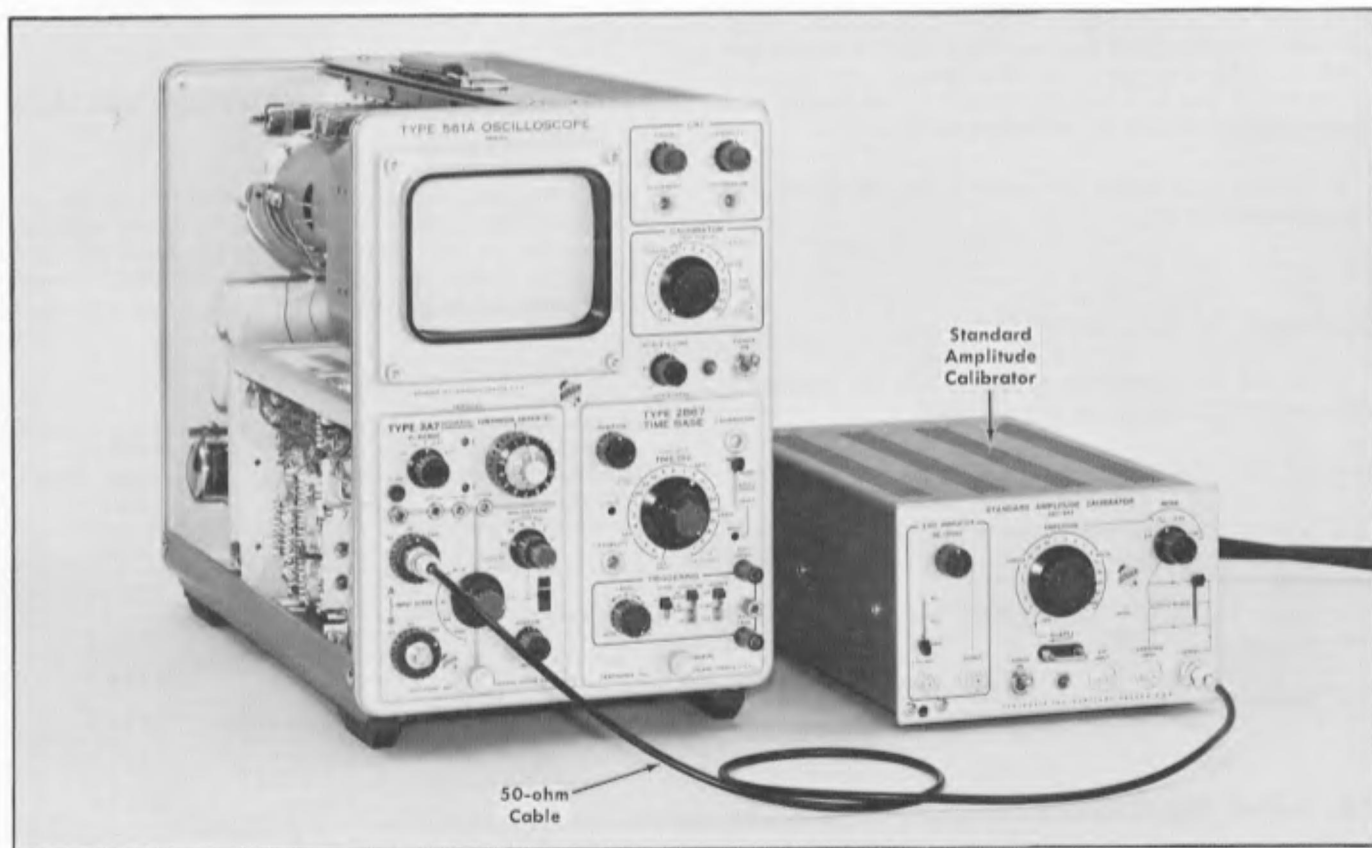

Fig. 5-14. Setup at completion of step 13c.
c. Apply a 5 mV peak-to-peak 1-kHz calibrator signal through a coaxial cable to the A input connector. If possible, use an accurate calibration signal source. Fig. 5-14 shows the setup.
a. Using the same setup as shown in Fig. 5-14, check all the MILLIVOLTS/DIV switch positions for proper calibrated vertical-deflection factors. Use Table 5-3 as a guide. For all positions except the 1 mV/div position, the display amplitude tolerance should be within  $\pm 3\%$  plus the tolerance of the amplitude calibrator output.